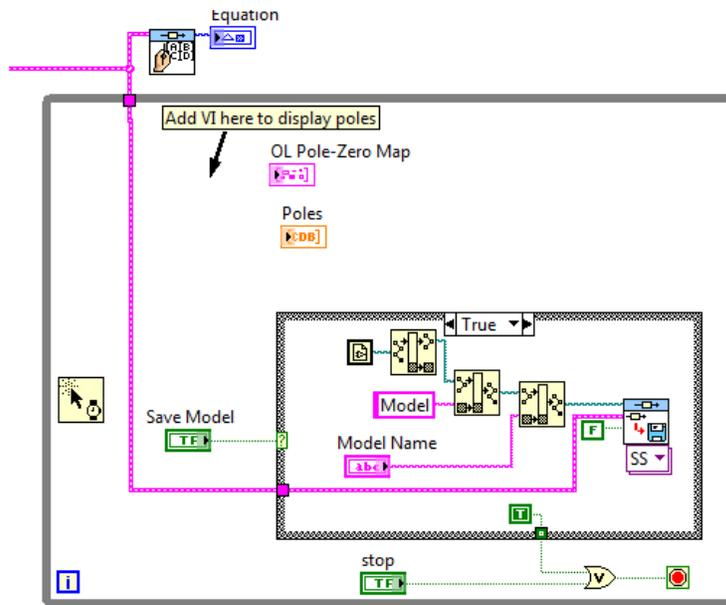

Figure 2.6: Complete block diagram to display poles.
7. Complete the block diagram shown in Figure 2.6 to display the open-loop poles of the system in the *OL Pole-Zero Map* and *Poles* indicators (using the state-space model). Look through the *Control Design* palette and then run the VI to display the poles.